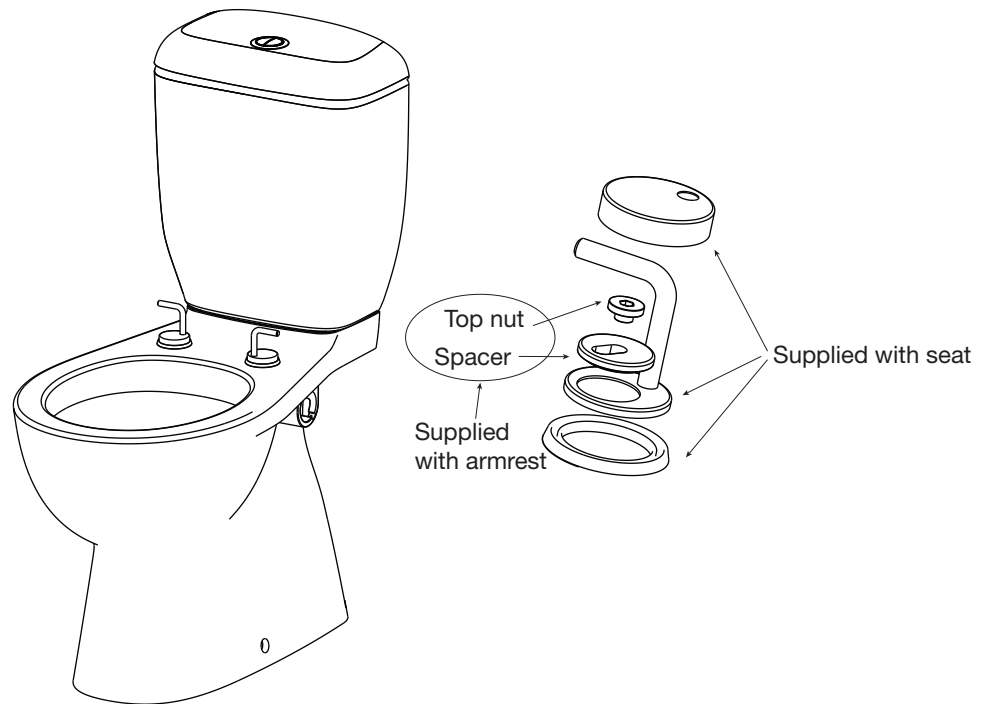

Fig. 9
9. Fix seat to pan as shown in **Fig. 9**. Ensure that you use the spacer provided in the armrest kit.